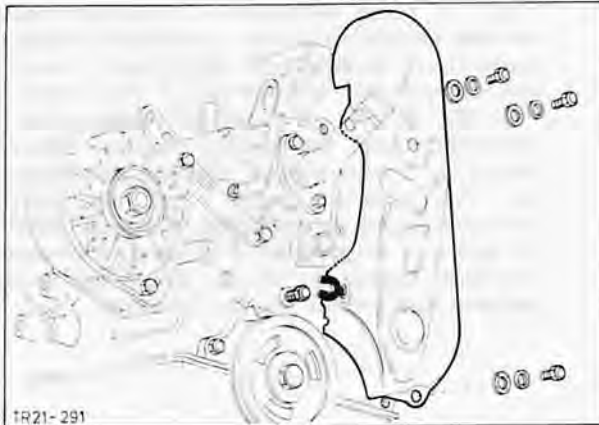

Fig. 195. Remove toothed belt guard (fan removed for clarity)
2. Remove radiator (4 bolts) and toothed belt guard (3 bolts), Fig. 195. Detach water outlet elbow (2 bolts).